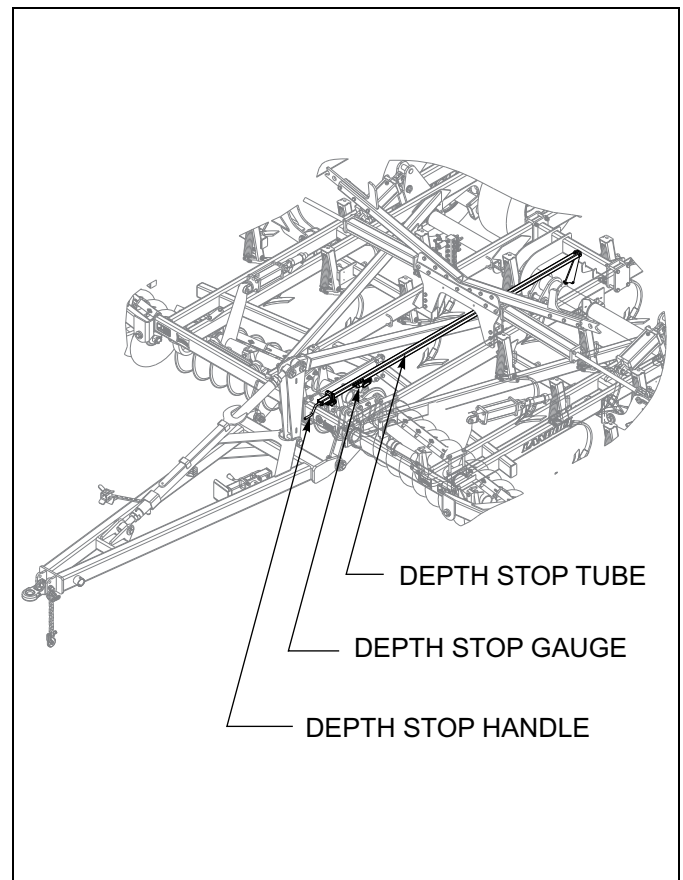

Figure 4-14: Depth Stop Adjustment
1. Adjust the depth stop by turning the handle in (clockwise) to increase operating depth (**See Figure 4-14.**) Turn the handle out (counter-clockwise) to decrease operating depth. One turn will equal approximately 3/16" adjustment in depth.